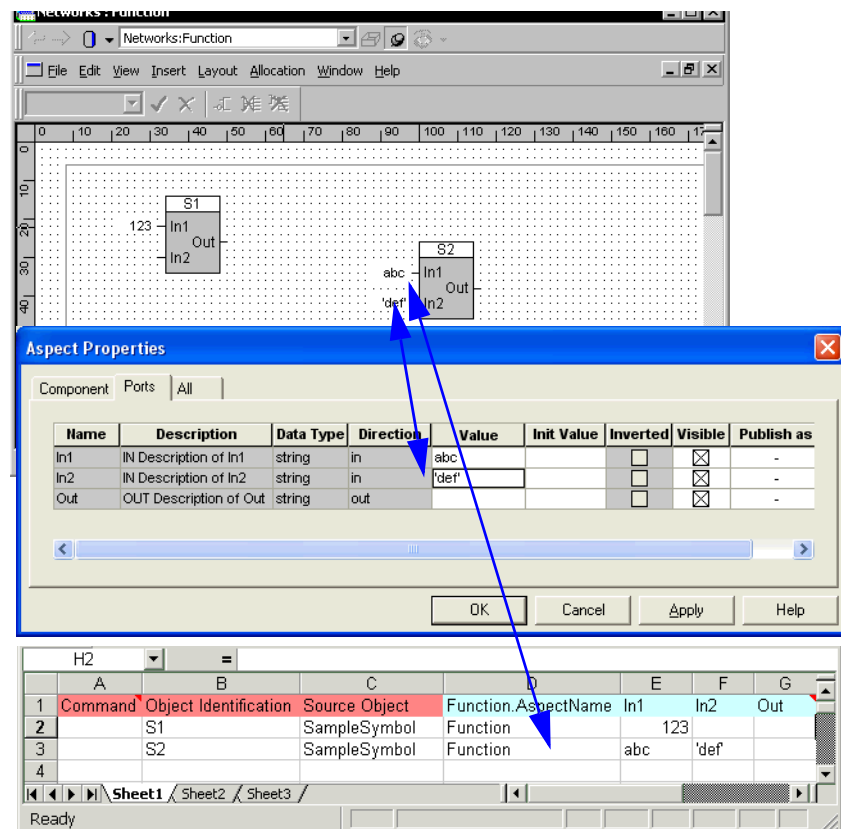

Figure 40. Connection to Constant and to Variable
- **Figure 40** shows symbol port S1:In1 connected to constant 123, and symbol ports S2:In1 connected to variable abc and S2:In2 connected to string constant 'def'. The connect strings are reflected in the ports aspect property, and in Bulk Data Manager. If user changes the connect string in the aspect property dialog, or in Bulk Data Manager, the diagram gets automatically updated.